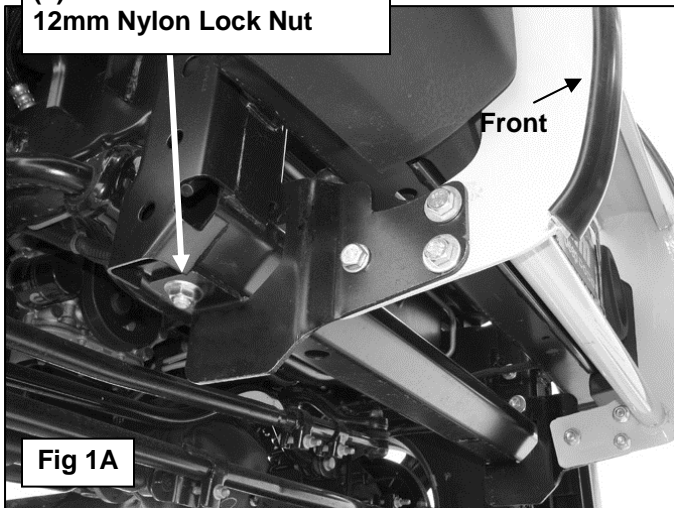
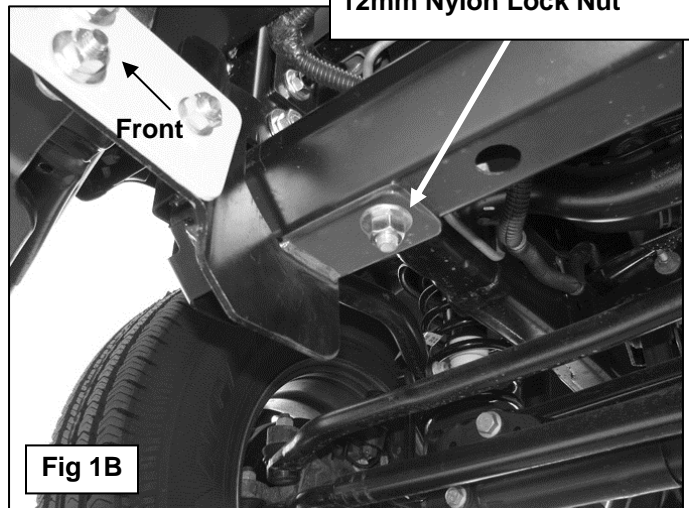

Fig 1A
Fig 1B
3. Select the passenger side Frame Mounting Bracket. Bolt the Frame Mounting Bracket to the bottom of the cross member with (1) 12mm x 30mm Hex Bolt, (2) 12mm Flat Washers and (1) 12mm Nylon Lock Nut. **NOTE: 07-09 models** will use the outer mounting location (**Fig 1A**), and **2010-16 models** will use the inner mounting location, (**Fig 1B**). Insert (1) 12mm x 35mm Bolt Plate, (2) 12mm Flat Washers and (1) 12mm Nylon Lock Nut through the upper tab on the side of the Mounting Bracket upright and tighten hardware at this time, (**Fig 2**). Repeat this step to install the driver side Frame Bracket, (**Fig 1C**). *Figures 11 and 12 are the photos showing this step.*